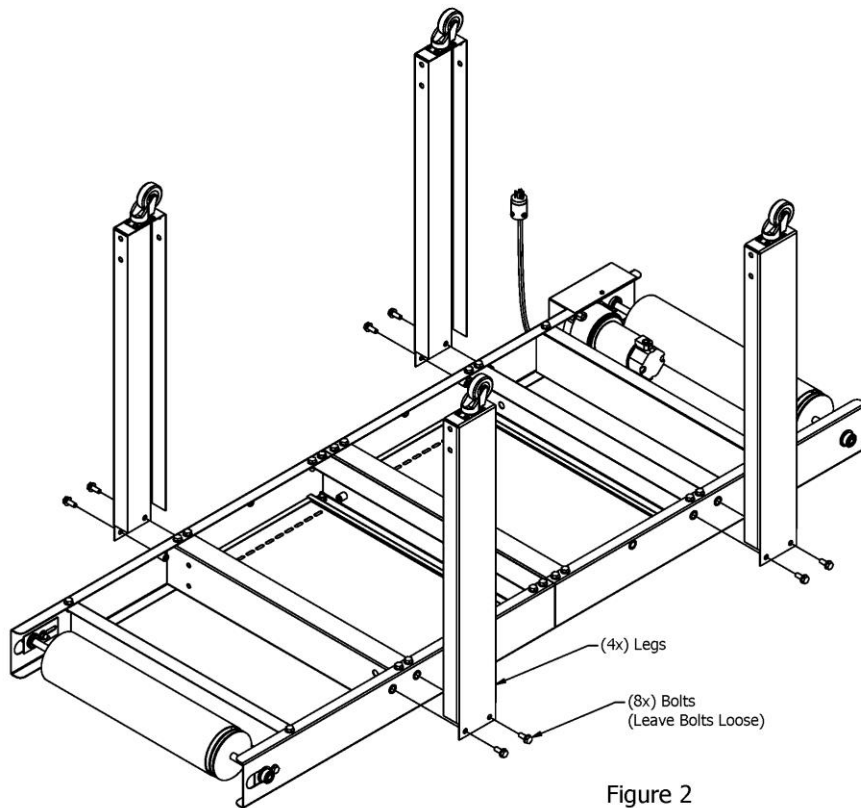

Figure 2
5. Fasten (4x) legs with (8x) bolts. Leave bolts loose. (See Figure 2)